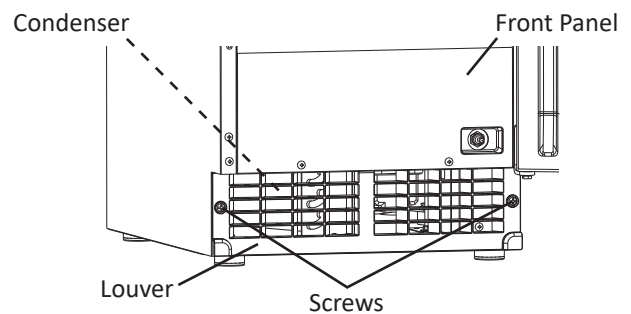

Fig. 37
- 2) Remove the screws securing the front panel, then remove it. See Fig. 37.